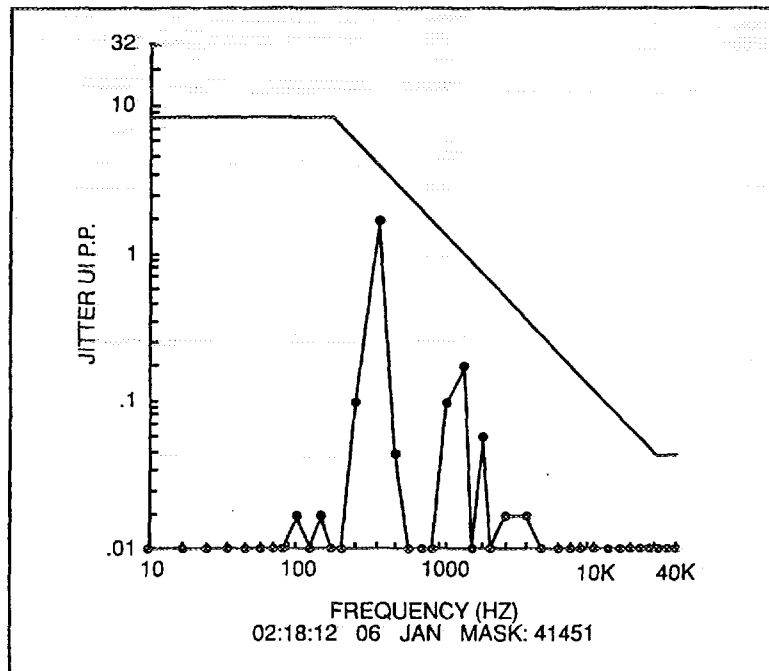

Figure 7-6
When the Jitter Spectral Analysis Option is installed, the spectral analysis jitter vs frequency graph printout is also initiated using the AUX GRAPH function. Figure 7-6 shows a sample jitter vs frequency graph printout. The spectral analysis performed by the T-BERD 211 can be compared to five jitter measurement specifications or shown in Unit Intervals (UI). When the AUX JIT S/A function is set to OFF, the graph cannot be printed.